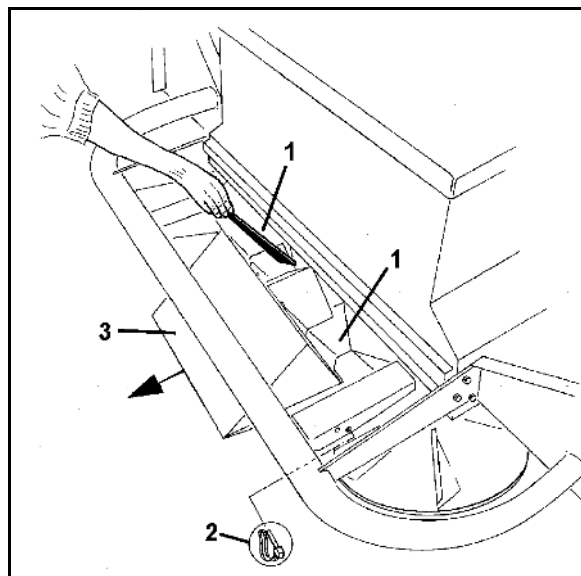

Fig. 52
- Open the slide gate after entering the tramline at point **P1** (Fig. 52), when the spreader discs are at distance X from the tramline of the headland.
- Close the slide gate before leaving the tramline at point **P2** (Fig. 52), when the spreader discs are located at the level of the first tramline of the headland.